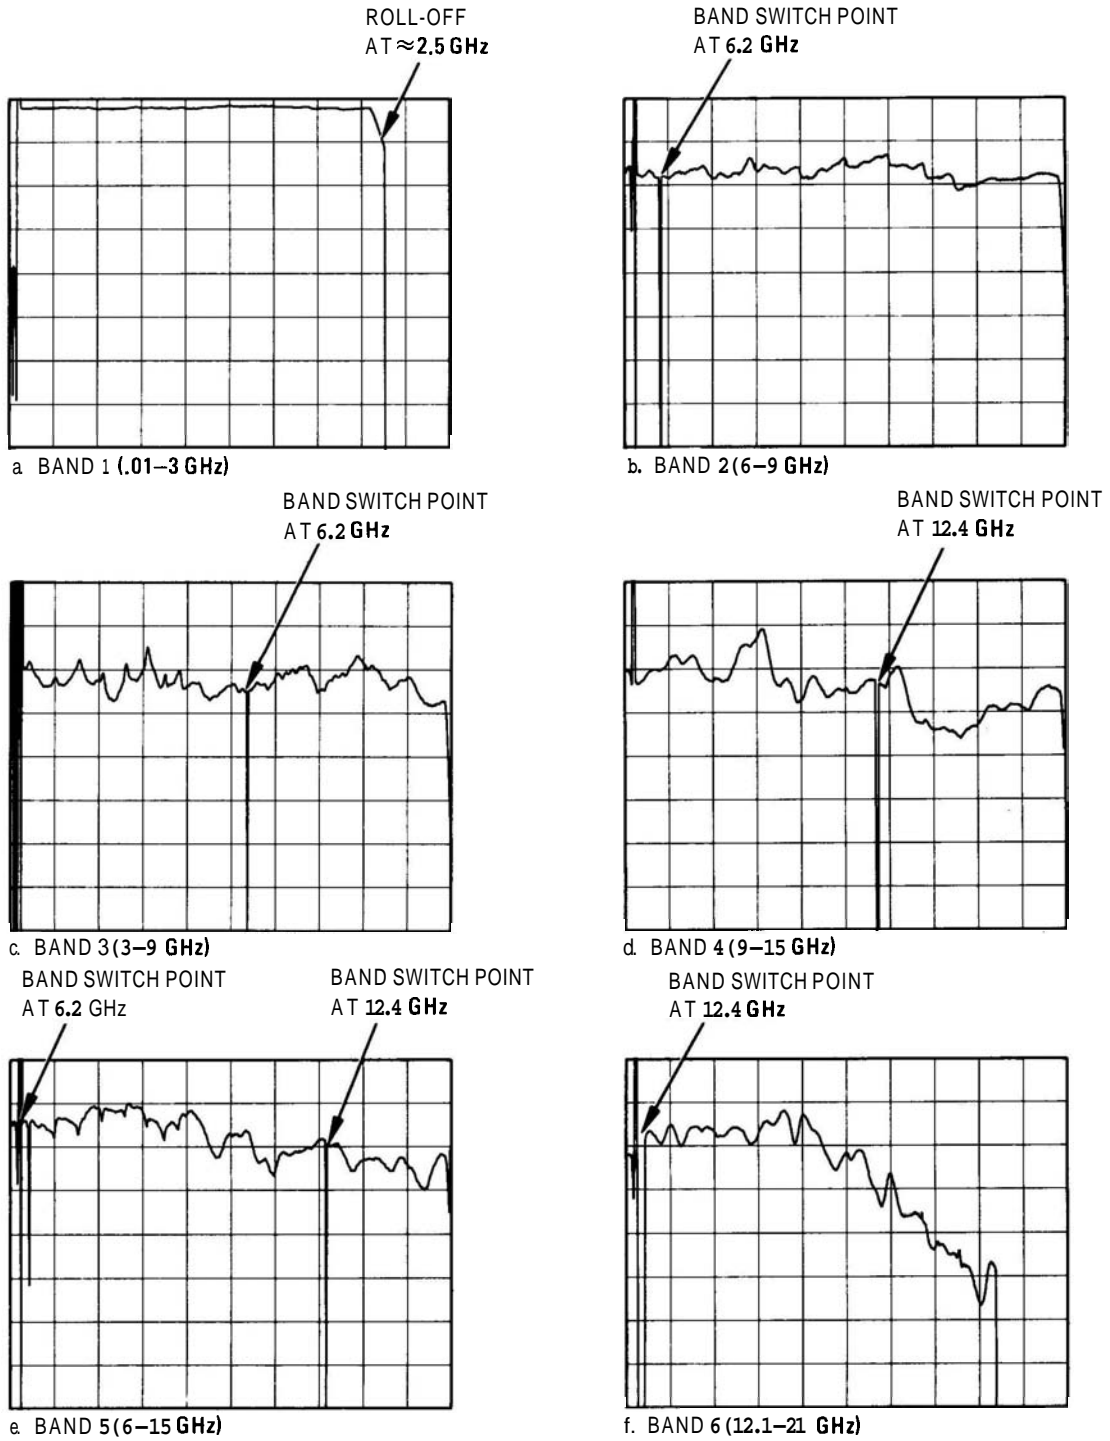

FIGURE 5-19. TYPICAL PHASE-LOCKED RESPONSE OF EACH FREQUENCY BAND
**Be careful during the adjustment of the remaining frequency bands. It is possible to achieve a phase-locked display of a frequency range other than the one selected on the spectrum analyzer. For example, it is possible to achieve a phase-locked display for 6 – 9 GHz when 3 – 9 GHz has been selected. This can be avoided by paying close attention to synchronizer polarity and RF plug-in band switch points. Figure 5-19 illustrates the typical appearance of each of the bands. Use it for reference.**